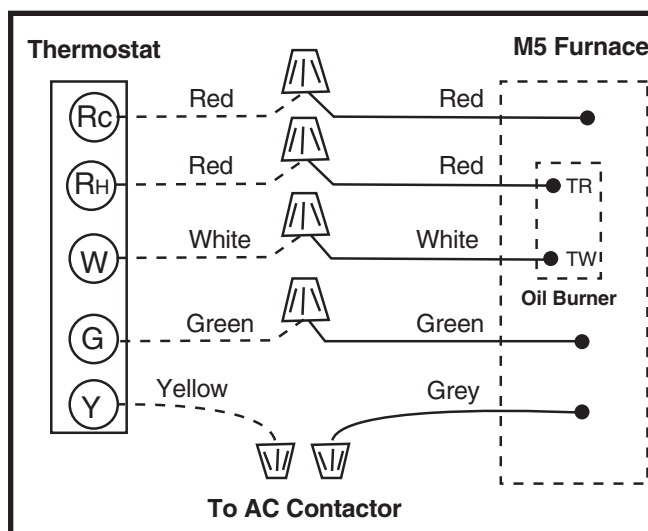

Figure 26. Thermostat Wiring
- **Proper line voltage polarity must be maintained in order for the control system to operate correctly. Verify the incoming neutral line is connected to the white wire and the incoming “hot” line is connected to the black wire. The furnace will not operate unless the polarity and ground are properly connected as shown in Figure 26 \(page 14\).**
2. Connect the thermostat wires to the furnace low voltage pigtails (dependent on the installation application). See Figure 26 \(page 14\). **NOTE:** To connect an M5 to a thermostat without an **RH & RC** connection, please refer to the wiring diagram and the installation instructions supplied in the kit [P/N 1018453]. Units installed with kit [P/N 1018453] will not use the **RH** connection from the furnace, **RC** on the furnace connects to the thermostat.